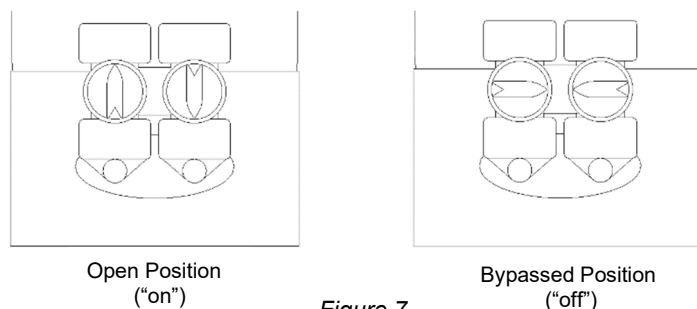

Figure 7
1. Turn off water supply by shutting off the inlet and outlet ball valves (Figure 7).